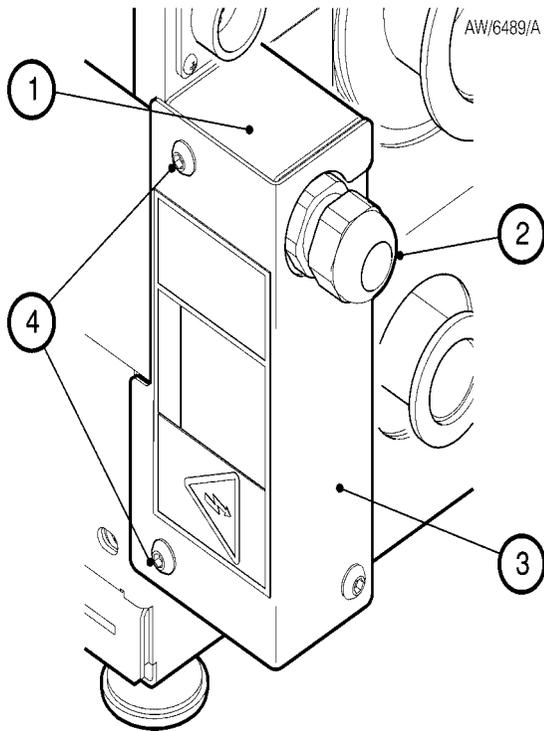

Figure 14 - Connection box
Ensure that the connection box cover (Figure 14, Item 3) is securely fastened onto the connection box (Figure 14, item 1) using the fixings supplied, before the power is connected.
2. Remove the cover (Figure 14, item3) from the connection box by removing the four fixings.